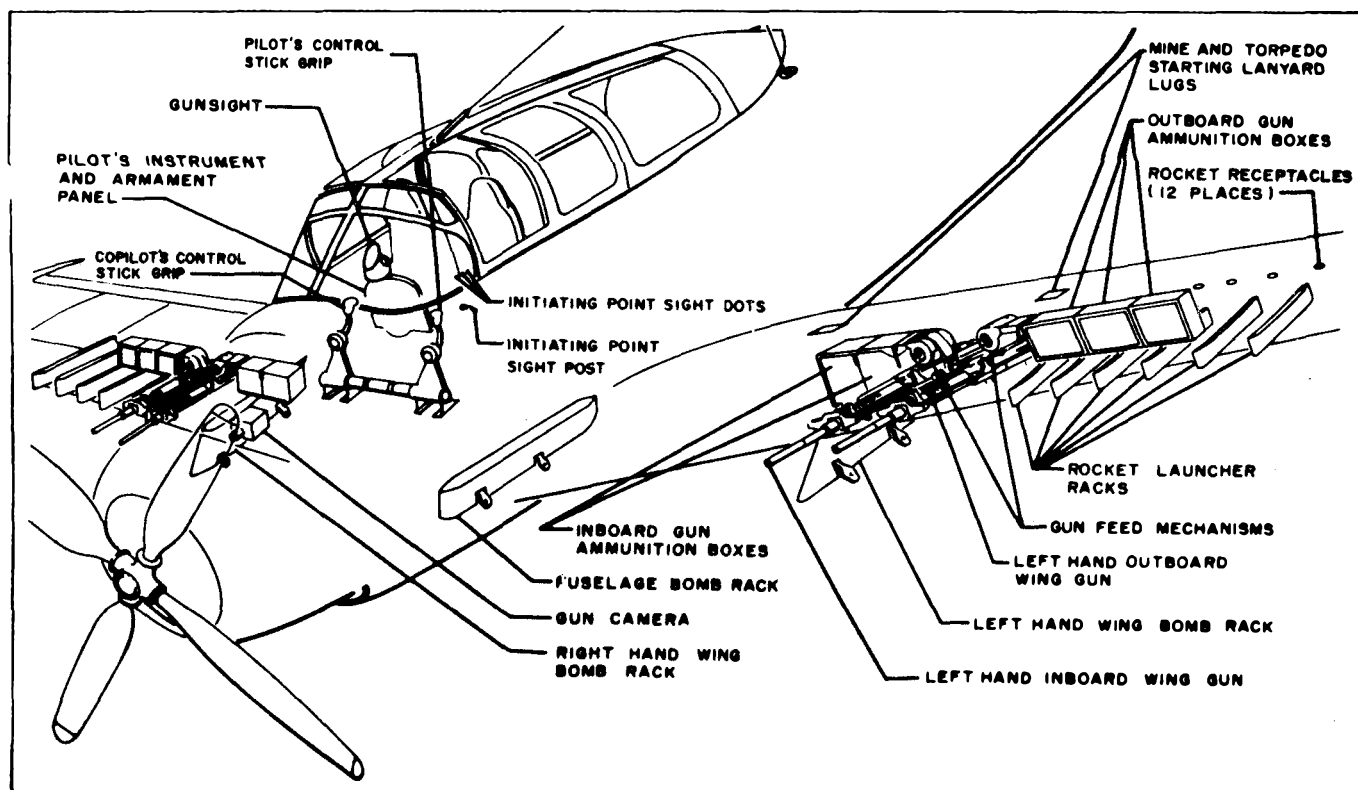

Figure 9-44. 20MM Gunnery Installation A-1 Series Aircraft
(1) The gunnery system of the AlE consists of four M3 20-mm guns located two in each wing. (see figure 9-44)
(2) The gunnery system of the AlH/J consists of four M24 20-mm guns located two in each wing. (see figure 9-44)
(1) Ammunition for the outboard guns is located in three cans with access through a panel in the top of the wings. (figure 9-44)
(2) Ammunition for the inboard guns is located in two cans with access through the wheelwells. (figure 9-44)
(3) The M3 uses 20-mm percussion primed "bore" or "non-bore" safe ammunition.
(4) The M24 gun uses 20-mm electric primed "bore" safe ammunition.